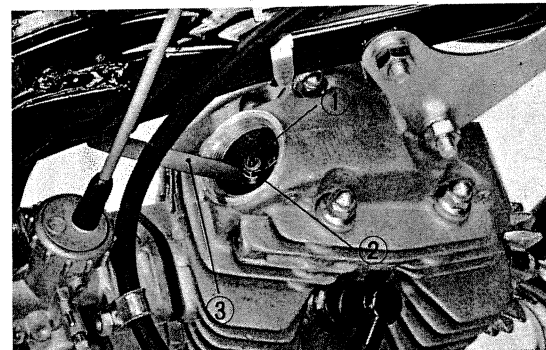

Fig. 2 Tappet adjustment
- 6) Check tappet clearances with a thickness gauge and if it is necessary to adjust, loosen the lock nut and adjust the tappet adjust screw. (Fig. 2)